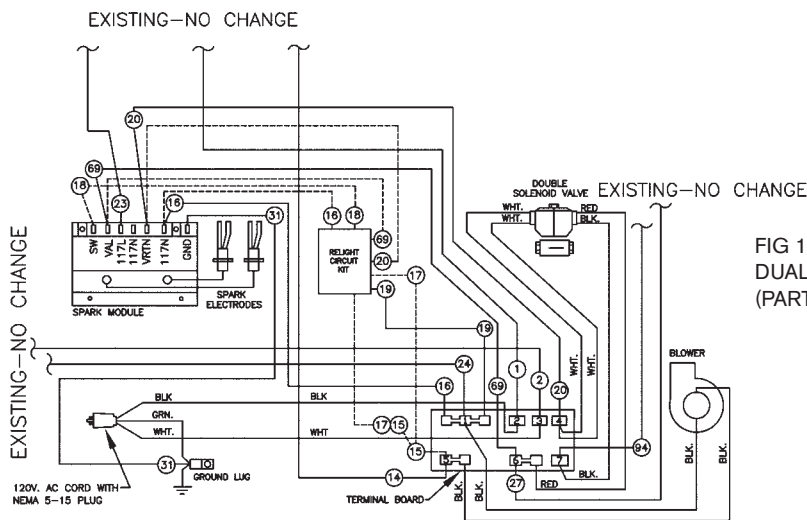

FIG 1. WIRING DIAGRAM FOR IFMs WITH DUAL-ELECTRODE SPARK IGNITION MODULE (PART # 019724) AND RELIGHT CIRCUIT KIT
9. Make connections between the two modules by installing the supplied wire harness. Refer to Fig. 3 below for detailed wiring. Dashed lines in Fig. 3 show the removed and discarded wires. Dashed lines in Fig. 3 show the added/rewired connections. Solid lines show unaltered wiring in both Fig. 1 and 2.